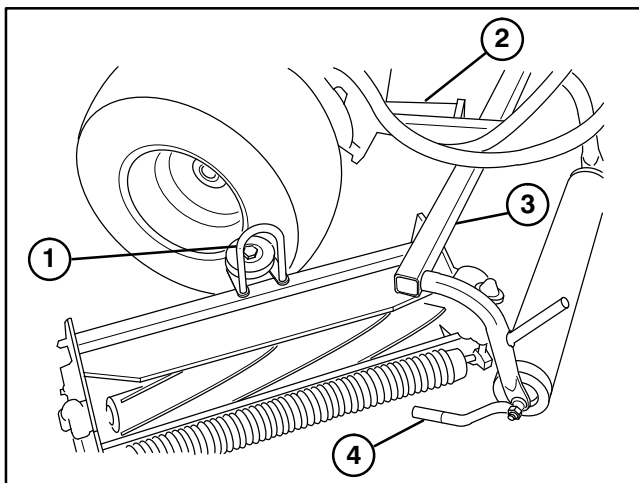

Figure 6
INSTALL CUTTING UNITS (Fig. 6–9)
2. Slide the cutting units under the pull frames and position the hoop on the top of cutting units over the lift arms (Fig. 6).